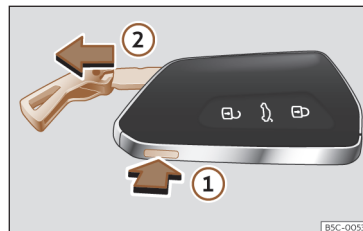

Fig. 71 Vehicle key: remove the key shaft.
- Press the >>> Fig. 71 ① button to release the ring from the key fob and remove the key blade ②. Pressing lightly on the ring leaves it fixed as a key fob.
- Press the >>> Fig. 71 ① button to unlock. Press and hold button ① and at the same time pull on the ring in the direction of arrow >>> Fig. 71 ② to completely remove the key shaft.